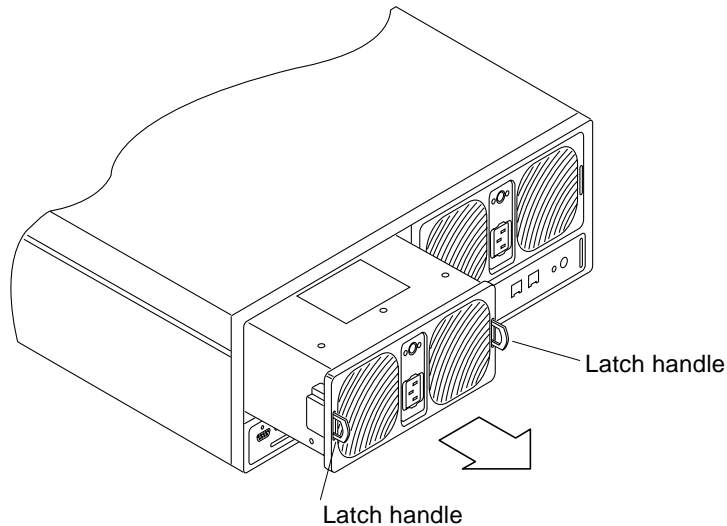

FIGURE 5-6 Removing the Power and Cooling Unit
4. **Unlock the power and cooling unit by using a coin or small screwdriver to push in and release the two latch handles** (FIGURE 5-6).